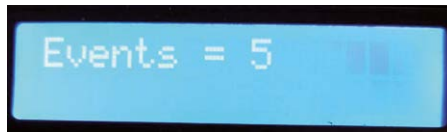

Figure 6.19 Displaying the total events at any time
- Join all the nodes as in Figure 6.17 and click **Deploy**. Every time the button is pressed, the event count will be incremented by one and the total value will be displayed on the screen as shown in Figure 6.19.